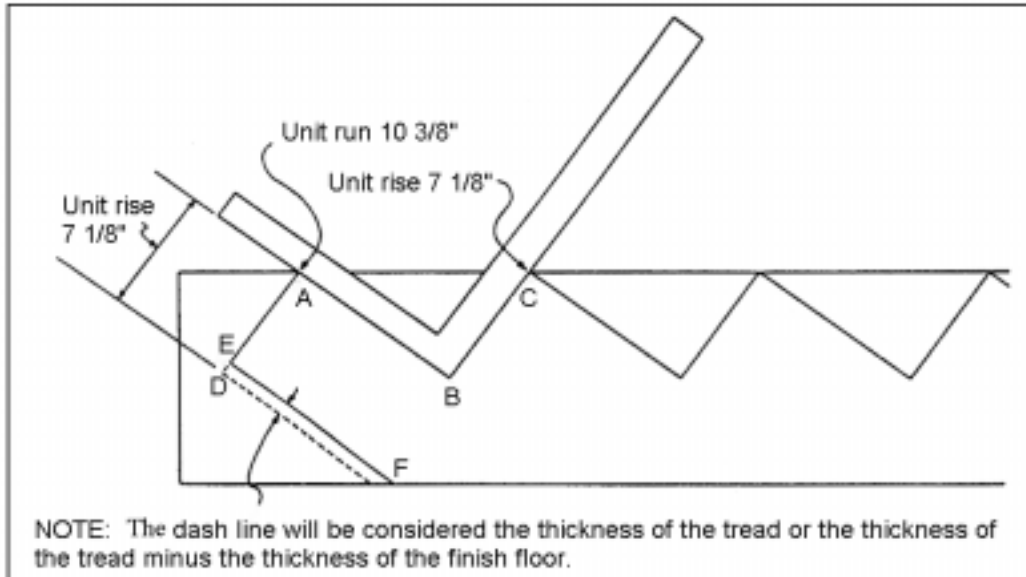

Figure 051-236-1143-2
(1) Lay out the lower end of the stringer (Figure 051-236-1143-2).